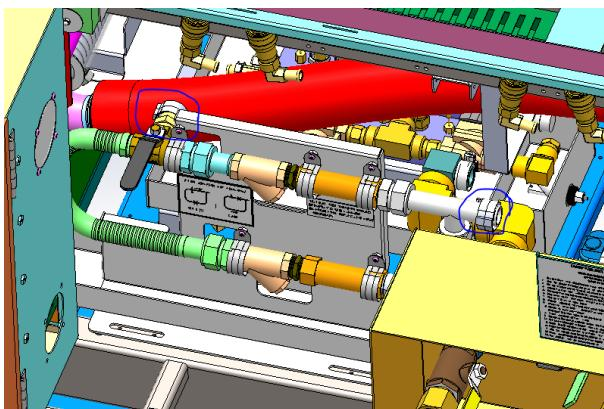

Fig 3
3. Release water tube on strainer (see Fig 3)